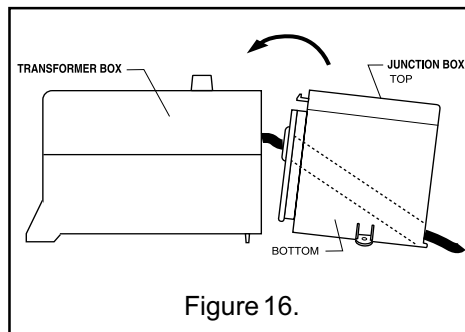

Figure 16.
11. Place the junction box cover on the junction box bottom so that the junction box can more easily snap into the transformer box; see Figure 16. Snap the pieces together, then remove junction box cover.